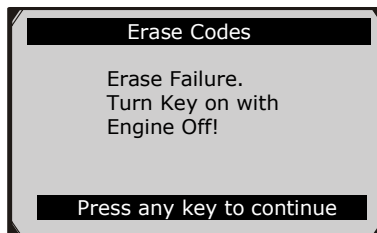

Figure 6.9
- If the codes are not cleared, then an “Erase Failure. Turn Key on with Engine off!” message appears. (Figure 6.9)